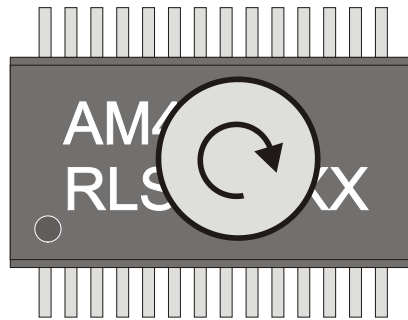

Fig. 9: CW rotation
The direction of the outputs can be changed by changing the “Sign” parameter. The arrow in Fig. 9 shows clockwise (CW) rotation of the magnet. The picture is a top view of the magnet placed above the AM4096.